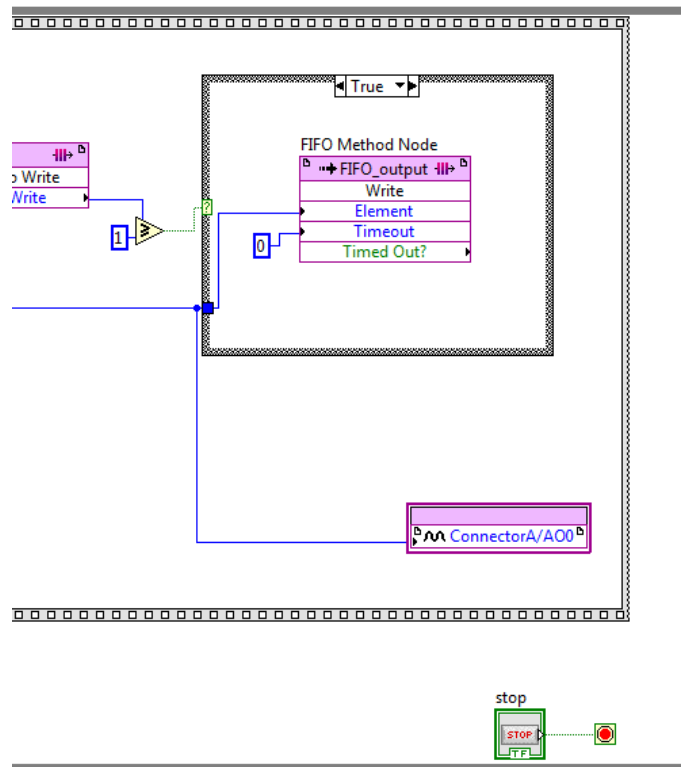

Fig. 8. Placing the flat sequence inside while loop and stop control.
- 14) The complete FPGA programming block should be placed inside a while loop to run in real-time continuously as shown in Fig. 8. Moreover, create a stop button.